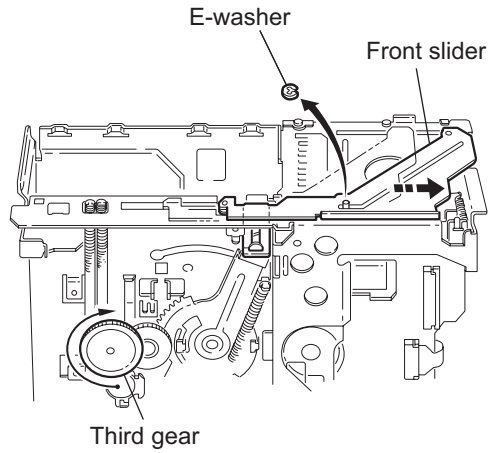

Fig.16
2.4.5 Remove the front slider (See fig.16)